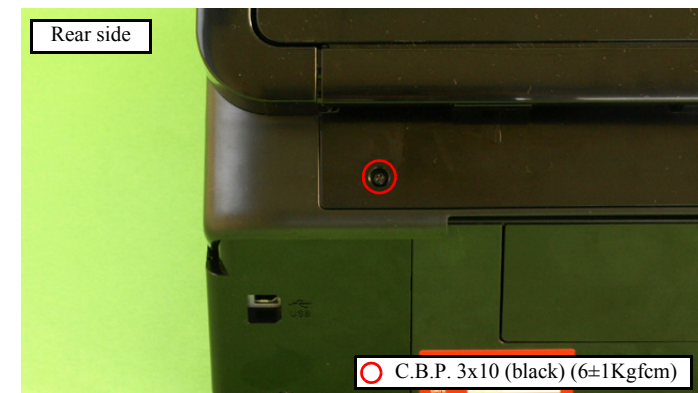

Figure 4-157. Removing the Scanner Unit (2)
3. While aligning and inserting the rib of the Scanner Unit to the groove of the Hinge, secure them with the screw (x1) temporarily with the screw holes aligned as shown in Fig. 4-157. It is recommended to prepare a pillow-shaped supporter to keep this position. (See Fig. 4-11.)